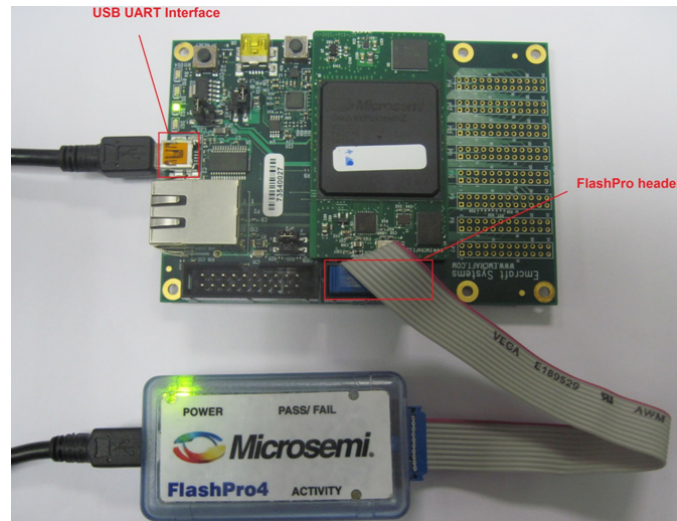

Figure 1-3 • SmartFusion2 SoC FPGA Starter Kit Setup
1. As shown in Figure 1-3, connect the FlashPro 4 programmer to the FlashPro header on the SmartFusion2 starter kit.
Figure 1-3 shows the board setup for running the DSP FIR filter demo on the SmartFusion2 starter kit.